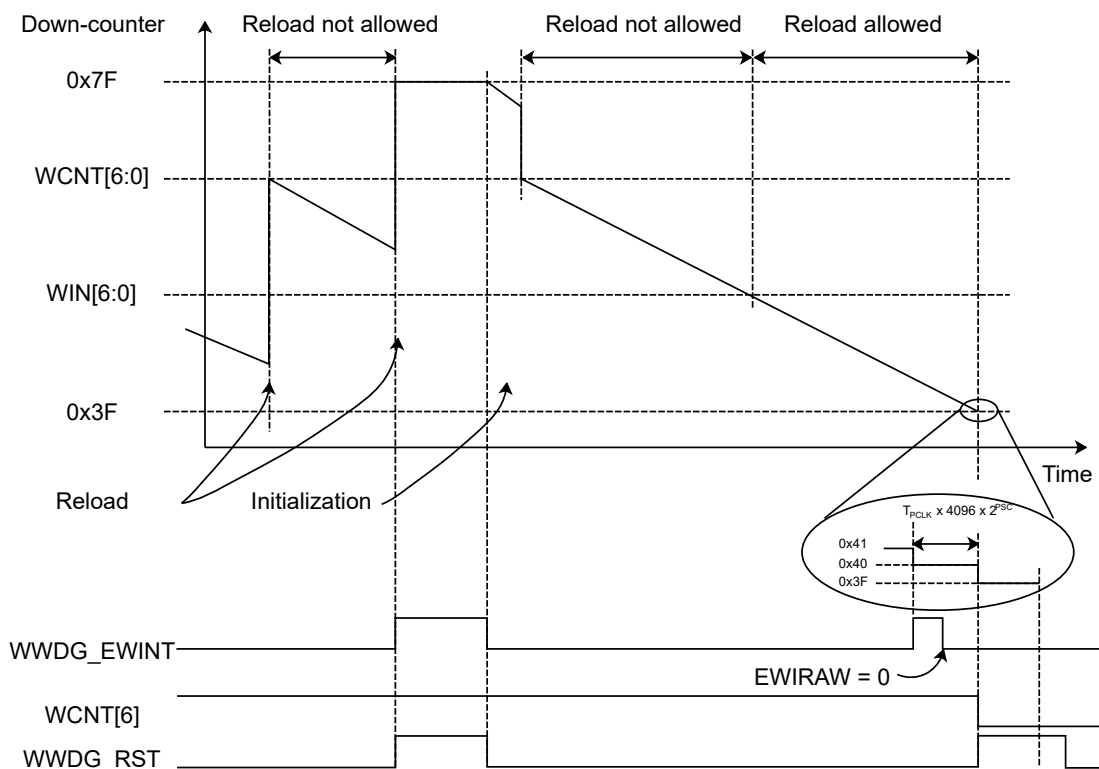

Figure 20-2 WWDG Down-Counter Timing Diagram
- When the down-counter is reloaded outside the window (refer to Figure 20-2).
The WCNT[6:0] bits contain the number of increments that determine the time delay before the watchdog triggers a reset. The timing range is determined by the configuration of the PCLK and the prescaler when writing to the WWDG control register (WWDG_CTRL). For more details, refer to Figure 20-2.
The WWDG configuration register stores the upper limit of the window within which a reset can be prevented. The down-counter needs to be reloaded when its value falls below the window register value but remains greater than 0x3F. For a detailed description of the WWDG process, refer to Figure 20-2.